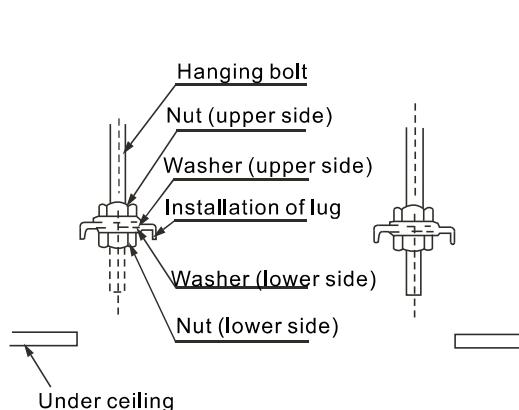

Figure 3.4
1) Adjust the location of the nut, and determine the space between the washer (lower side) and the ceiling according to the actual construction situation. Refer to Figure 3.4.